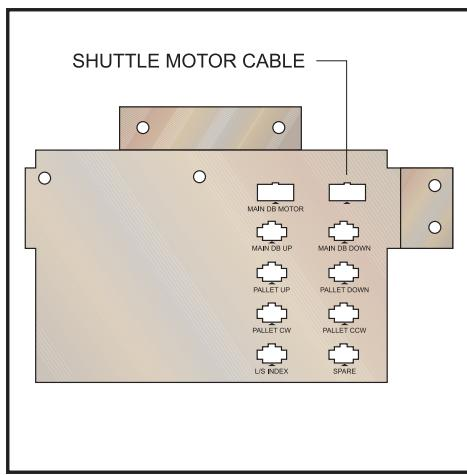

Figure 3
20. Disconnect the tool changer's shuttle motor cable connector, behind the rear access panel on the control box side of the machine. See Figure 3.